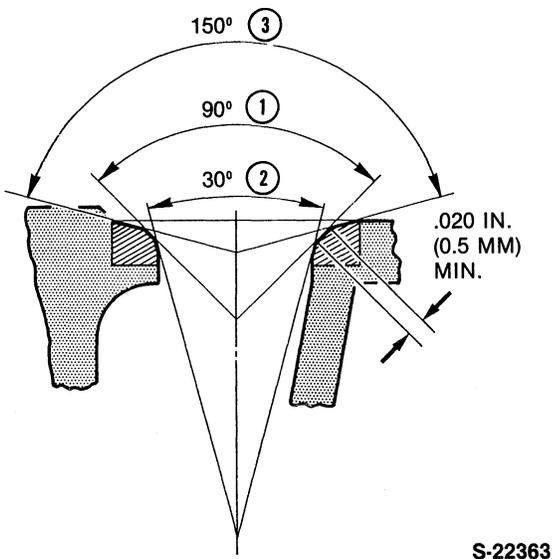

Figure 19
2. Check the seat width, Figure 19, and if necessary, use a 15° stone to lower the seat contact point. Use a 75° stone to raise the seat contact point.